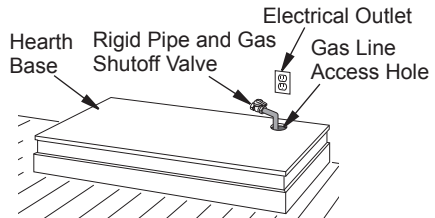

Figure 13 - Placing Hearth Base Accessory Against Wall
4. Place hearth base accessory against wall at installation location. Cut an access hole in hearth top to run flexible gas line to firebox (see Figure 13). Make sure to locate access hole so cabinet mantel will cover it when installed. **Note:** You can secure base to floor using wood screws. Countersink screw heads and putty over.